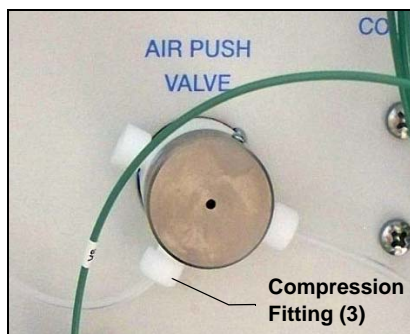

Figure 5-14. Compression Fittings
3. Remove the three white compression fittings on the air push valve (see Figure 5-14).